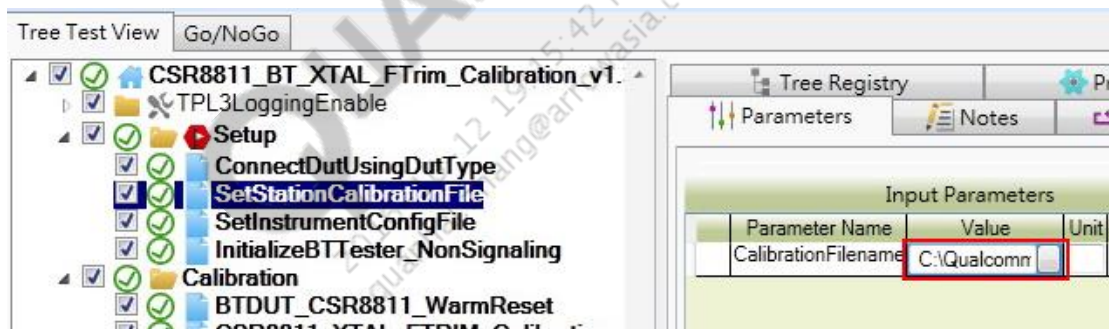

Figure 3 Test tree for SetStationCalibrationFile
2. Modify the SetStationCalibrationFile as shown in Figure 3.